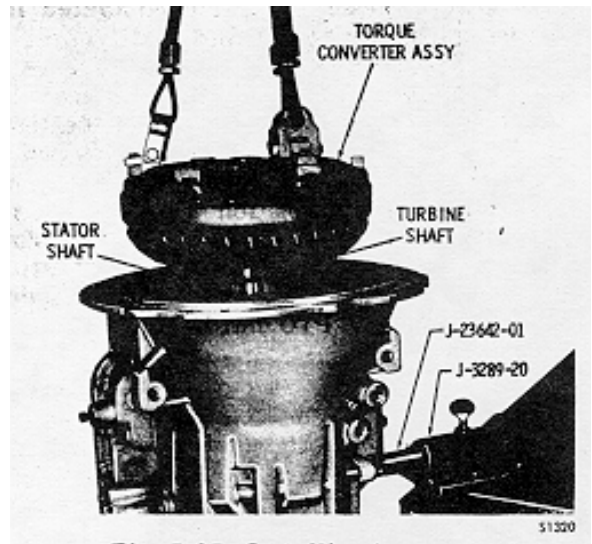

Fig. 7-37. Installing torque converter assembly
(1) Position the transmission housing front end upward. Install the torque converter assembly (as assembled in para 6-23 or 6-24) into the transmission housing (Fig. 7-37). Be sure the splines on the